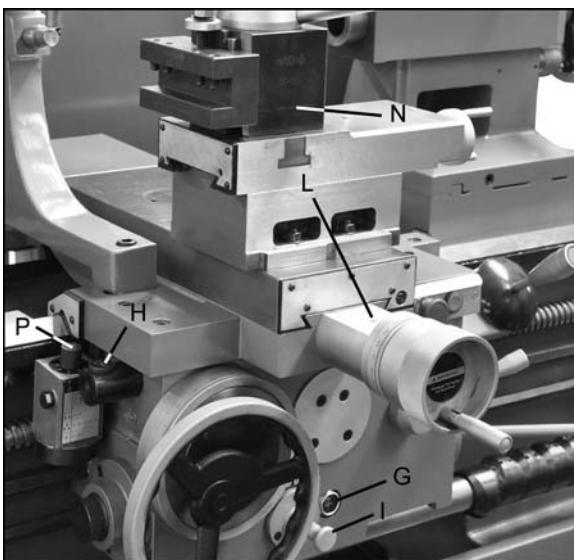
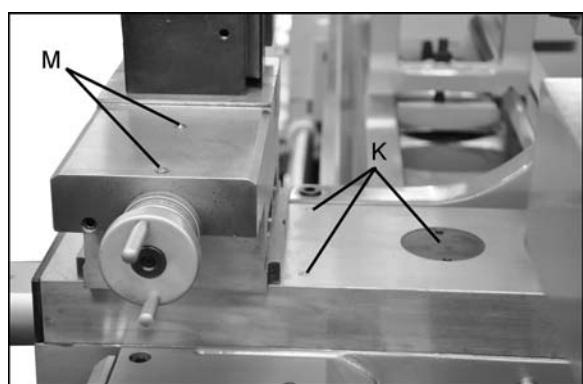

Figure 11 – Lubrication points
Figure 12 – Lubrication points
6. **Apron** – Oil must be between indicator marks in the oil sight glass (G, Figure 11). Top off with SAE 20W oil. Unscrew oil plug (H, Figure 11) to fill. To drain, remove drain plug on the underside of apron. Drain oil completely and refill after the first three months of operation. Then, change oil in the apron annually.
7. **One-shot Lube System**: Pull knob (I, Figure 11) and hold for several seconds to allow oil to fill the pump from the apron reservoir. Then release the knob which will push the oil
8. **Threading Dial** – Frequently lubricate via one ball oiler (P, Figure 11) on top of the dial with SAE 20W oil.
9. **Cross Slide** – Daily lubricate one ball oiler on the handwheel housing (L, Figure 11) and three ball oilers on the platform (K, Figure 12), with SAE 20W oil.
11. **Compound Rest** – Daily lubricate two ball oilers (M, Figure 12) on top of compound rest with SAE 20W oil.
12. **Tool Post** – Regularly clean dirt and coolant from around the tool post to maintain its re-positioning accuracy(N, Figure 11).